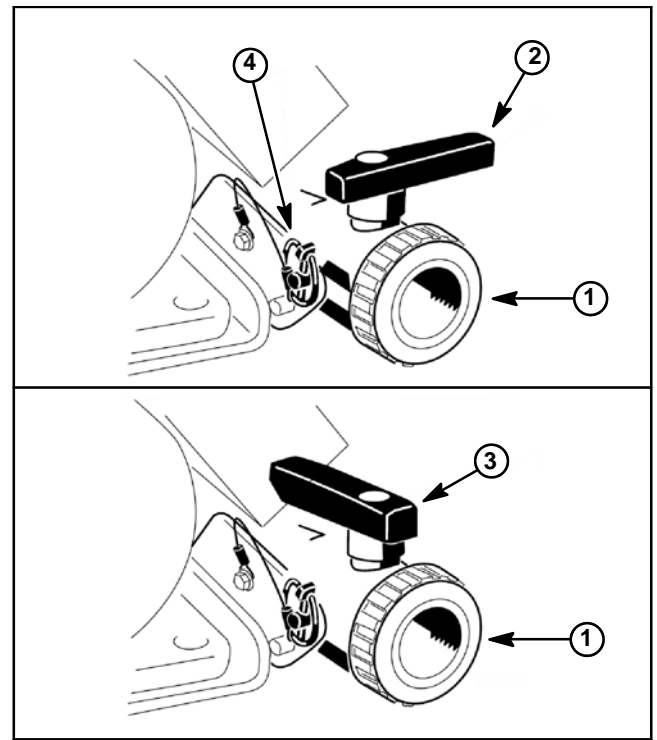

Figure 37.2
2. Drain spray tank (see Operator's Manual and Fig. 37.2).
3. Make sure that drain valve is closed and secured to sprayer with lynch pin (Fig. 37.2).